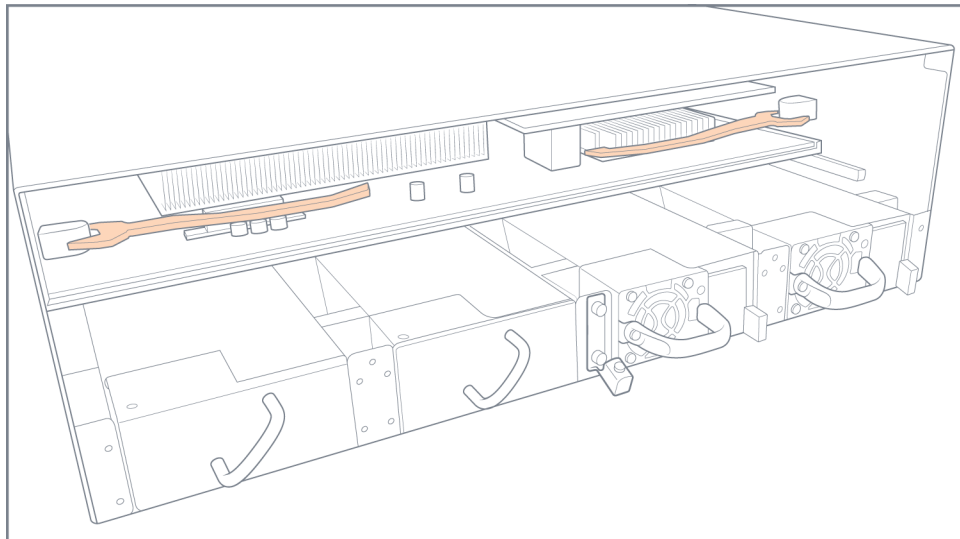

Figure 4-17: Control Card Location
3. Remove the fan tray as described in Removing a Fan Tray on page 81. The control card is located behind the fan tray as shown in Figure 4-17 on page 85.